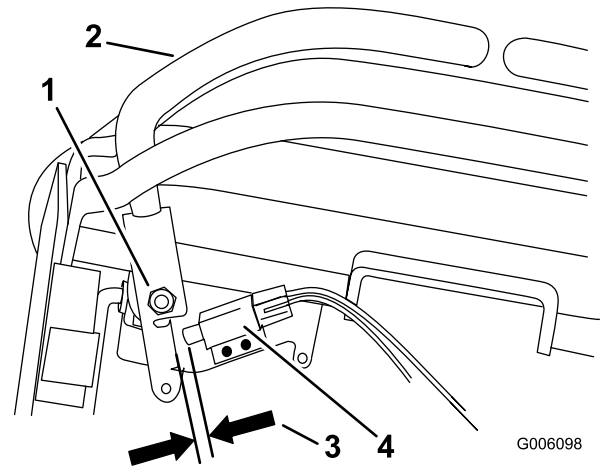

Figure 51
10. Check the gap between the control lever and switch as shown in Figure 51. The gap needs to be an 1/8 inch (3mm).